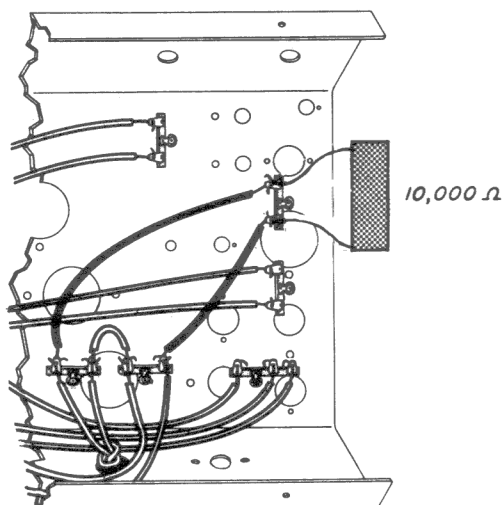

Fig. 14-13
Step 3. Connect the 10,000-ohm resistor in series with the transformer primary and the line cord, as shown in Fig. 14-13.
Step 1. Use the circuit you connected in Experiment 14-5 (Fig. 14-13).